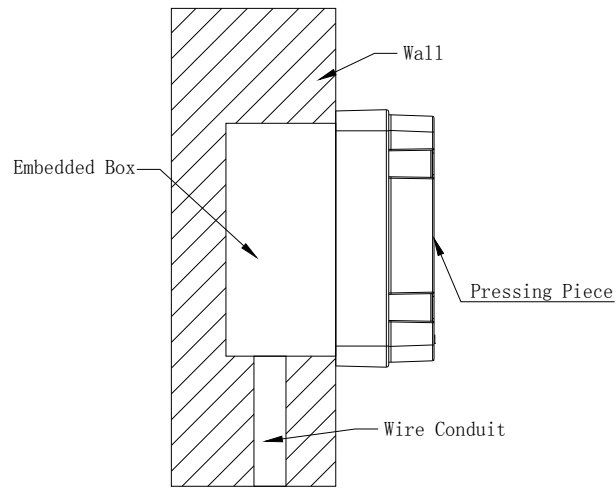

Figure 1
2. Fix the base of the manual fire alarm call point to wall as shown in Figure 1. Follow the arrow mark for the correct position. Do not over-tighten the screws otherwise the base will twist.